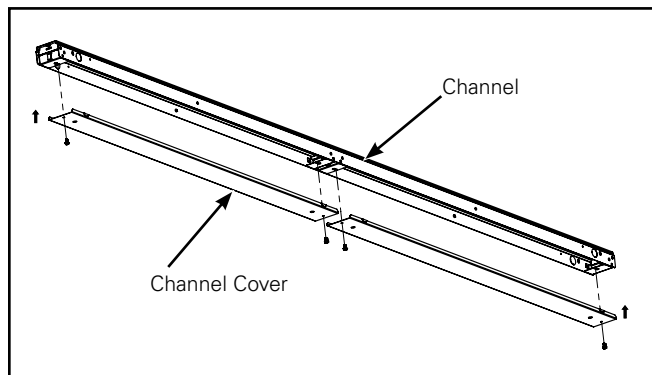

Figure 9.
2. Wire fixture according to code and install channel cover to channel with provided screws. (Figure 9.)